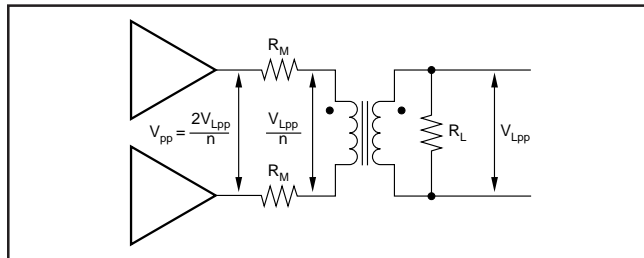
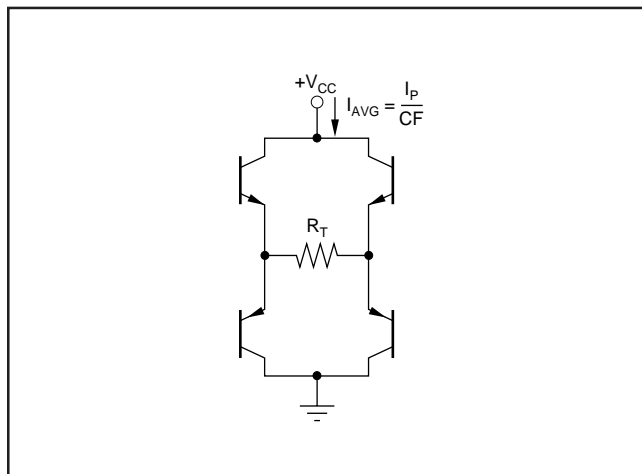

FIGURE 8. Driver Peak Output Voltage.
FIGURE 10. Output Stage Power Model.
with  $V_{PP}$  as defined in Equation 7, and  $R_M$  as defined in Equation 2 and shown in Figure 8.
The total internal power dissipation for the OPA2677 in an xDSL line driver application will be the sum of the quiescent power and the output stage power. The OPA2677 holds a relatively constant quiescent current versus supply voltage—giving a power contribution that is simply the quiescent current times the supply voltage used (the supply voltage will be greater than the solution given in Equation 10). The total output stage power may be computed with reference to Figure 10.
The two output stages used to drive the load of Figure 8 can be seen as an H-Bridge in Figure 10. The average current drawn from the supply into this H-Bridge and load will be the peak current in the load given by Equation 8 divided by the crest factor (CF) for the xDSL modulation. This total power from the supply is then reduced by the power in  $R_T$  to leave the power dissipated internal to the drivers in the four output stage transistors. That power is simply the target line power used in Equation 3 plus the power lost in the matching elements ( $R_M$ ). In the examples here, a perfect match is targeted giving the same power in the matching elements as in the load. The output stage power is then set by Equation 11.